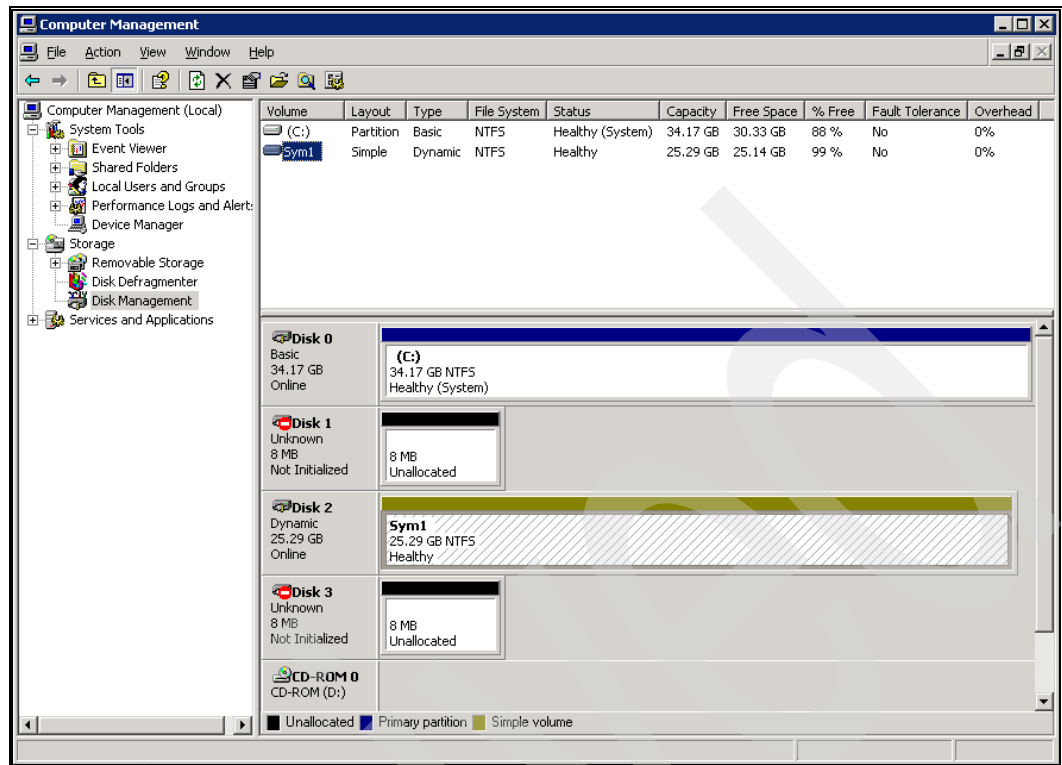

Figure 6-3 Windows host with drive letter removed
2. Remove the drive letter from the volume to be integrated (in this case the E: drive) as shown in Figure 6-3.